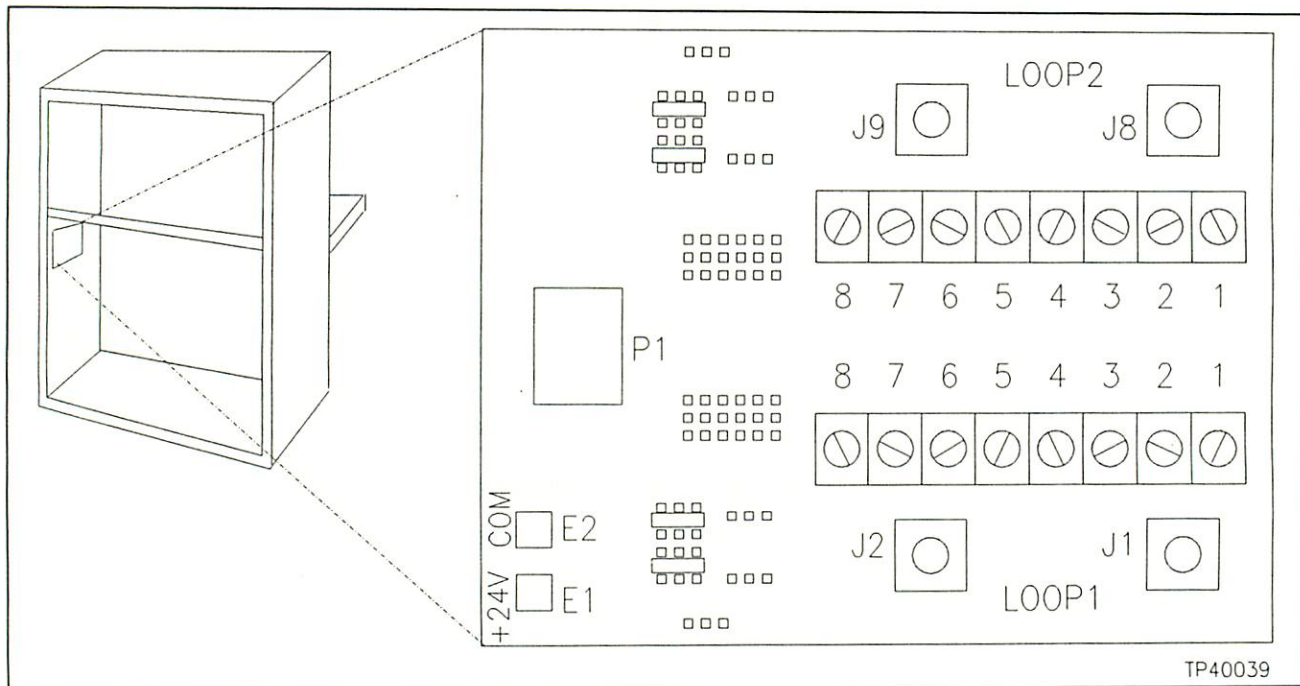

Figure 3-41. Communication Loop Termination Unit (NTCL01)
The termination unit (TU) as shown in Figure 3-41 interfaces the MCS to the communication loop. A cable (NKLM01/02/03/04) connects the TU and the Loop Interface Module (NLIM03). One end of the cable plugs into the P1 socket on the TU; the other ends snaps into place at the back of the MMU (standard position is slot 11).